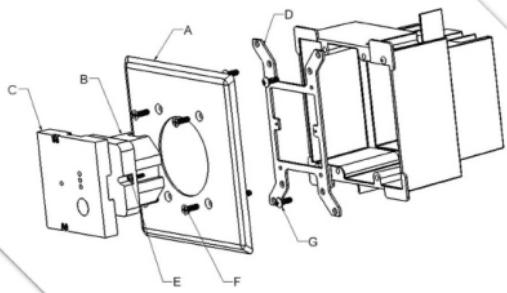
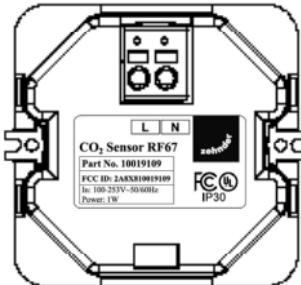

Figure 4.1 - CO₂ RF67 (110V) Sensor
Figure 4.2 - Rear of CO₂ RF Sensor
Report damage, missing parts or incorrect delivery based on the identification plate on the back of the CO₂ Sensor (Figure 4.1 and Figure 4.2) directly to your local Zehnder office. Contact details can be found at the back of this installation manual.
3. Attach the adapter plate 'D' (figure 4.1) to the plastic 2 gang box with 4 screws 'G'. Feed the wires through the center hole in the cover plate 'A'.